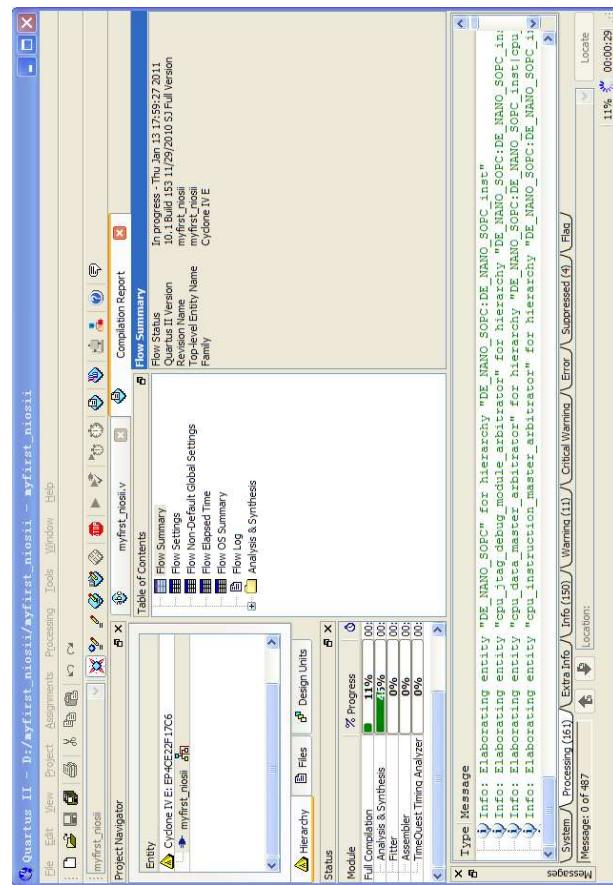

**Figure 7-49 Compile project completely**
37. A dialog box will appear upon successful completion of the compile, as shown in Figure 7-49.